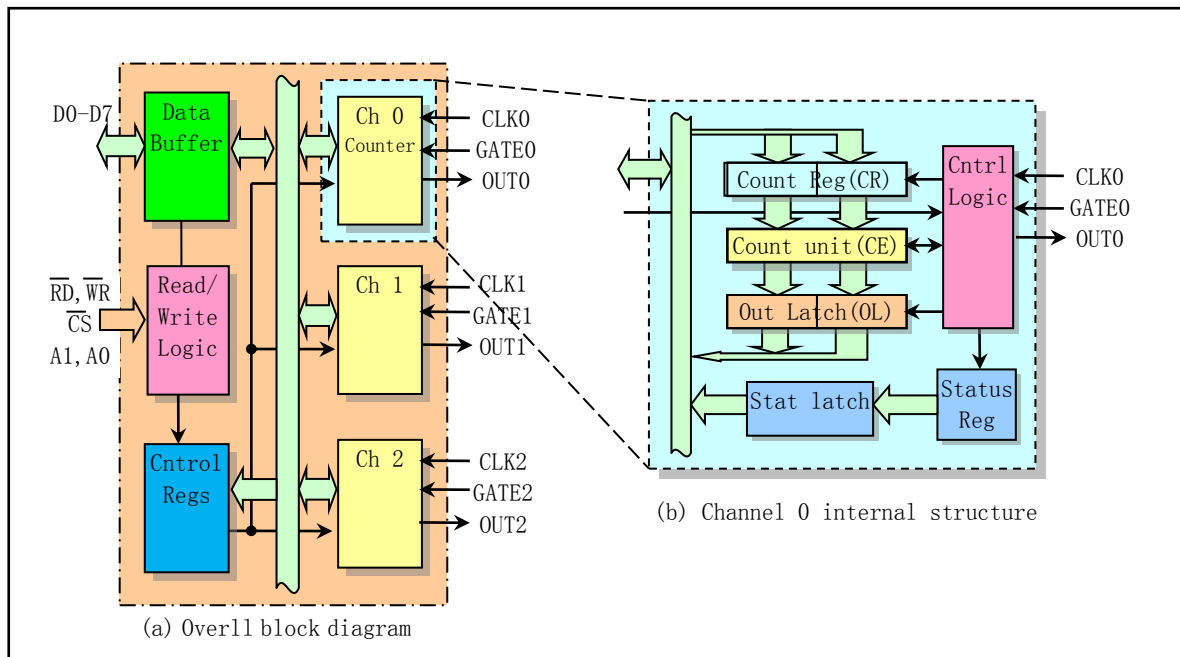

Figure 8-8 8253 (8254) Timer/Counter chip internal structure
The programming of the 8253 chip is relatively simple and can produce the desired delays of various lengths of time. A block diagram of the 8253 (8254) chip is shown in Figure 8-8.
Figure 8-8(b) is an internal logic block diagram of one of the counter channels. The status register will contain the current contents of the control word register and the status of the output and the Null Count Flag when locked. The actual counter is the CE (counting unit) in the figure. It is a 16-bit pre-settable synchronous down counter. The output latch OL (Output Latch) is composed of two 8-bit latches, OLm and OL1, which represent the high byte and low byte of the latch, respectively. Usually the contents of the two output latches change following the content change of the counting unit CE, but if the chip receives a counter latch command, then their contents will be locked. Until the CPU reads their contents, they will continue to follow the CE content changes. Note that the value of CE is unreadable. Whenever you need to read the count value, the contents of the latch OL are always output. The other two in Figure 8-8(b) are 8-bit registers called the Count Register (CR). When the CPU writes a new count value to the counter channel, the initial count value is stored in these two registers and then copied to the count unit CE. These two registers will be cleared when the counter is programmed. Therefore, after the initial count value is saved in the count register CR, it is sent to the counting unit CE. When GATE is enabled, the counting unit performs a countdown operation under the action of the clock pulse CLK. Each time it is decremented by one, until the count value is decremented to zero, a